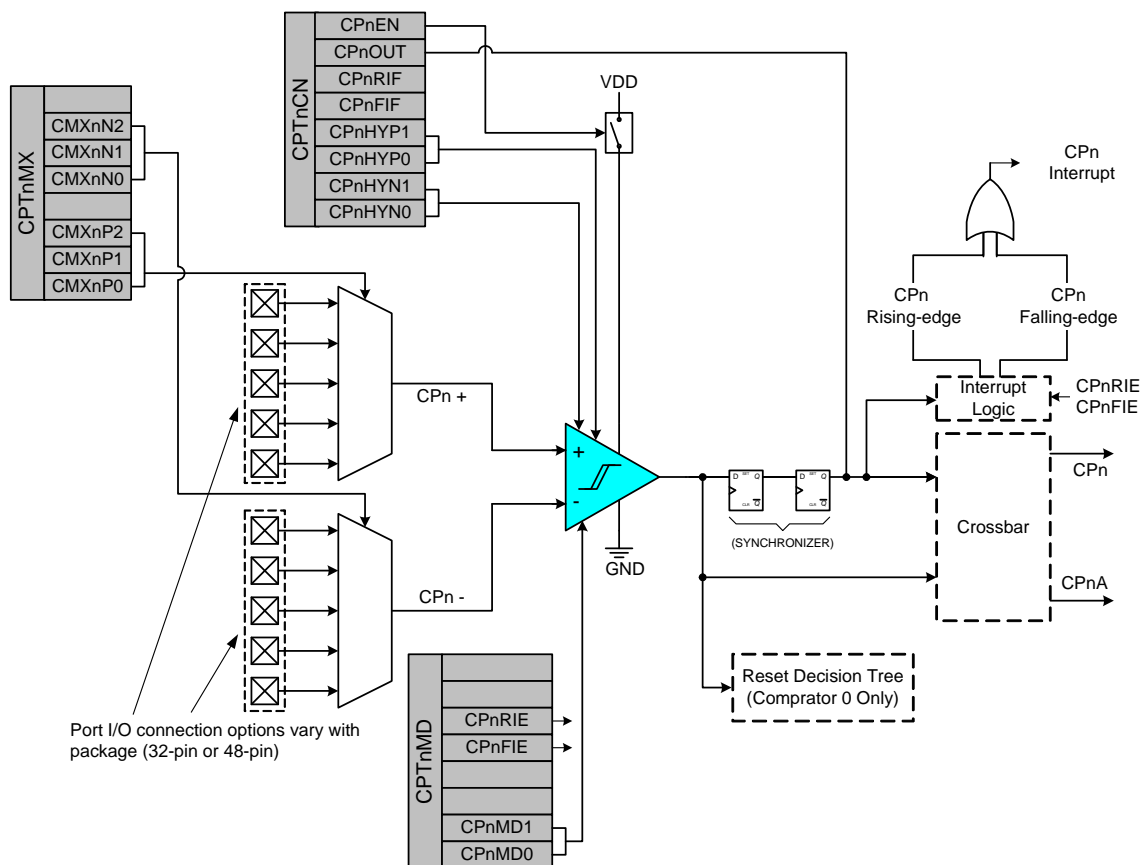

Figure 7.1. Comparator Functional Block Diagram
C8051F34x devices include two on-chip programmable voltage Comparators. A block diagram of the comparators is shown in Figure 7.1, where “n” is the comparator number (0 or 1). The two Comparators operate identically with the following exceptions: (1) Their input selections differ, and (2) Comparator0 can be used as a reset source. For input selection details, refer to SFR Definition 7.2 and SFR Definition 7.5.